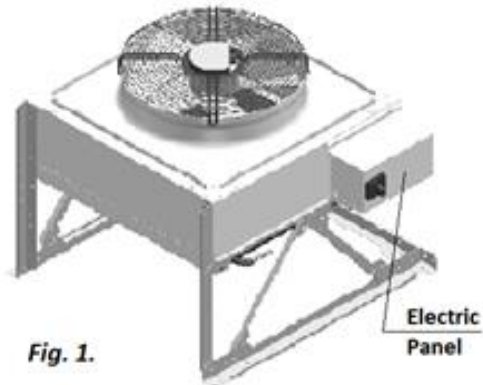

Fig. 1.
*For example, PCP3030 would have double-condenser, composed of two NC-Z-1 (see Pic.C.4, Fig.1).*